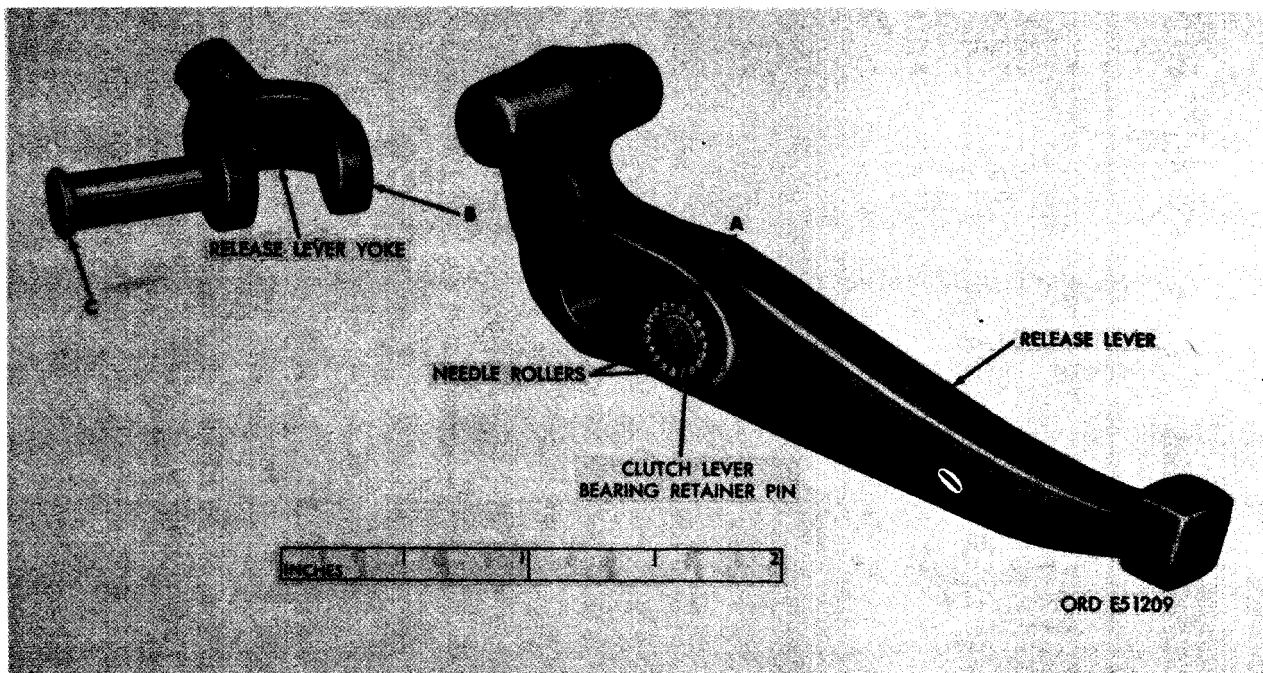

FIGURE 460. INSTALLING RELEASE LEVER NEEDLE ROLLERS AND YOKE USING BEARING RETAINING PIN.
a. Install Release Lever Needle Rollers and Yokes. Figure 460. (A) Coat 152 needle rollers with grease (GAA) (MIL-G-10924). Insert 19 release lever needle rollers in yoke pin bore in release lever, using one bearing retaining pin to hold rollers in position as they are installed. (B) Install yoke, guiding yoke pin through needle rollers. Yoke pin must enter needle roller pack as pin is pushed into position to push out the temporary bearing retaining pin. (C) Place head of yoke pin on a flat hard surface and mushroom or split headless end of yoke pin to prevent pin from working out of position.